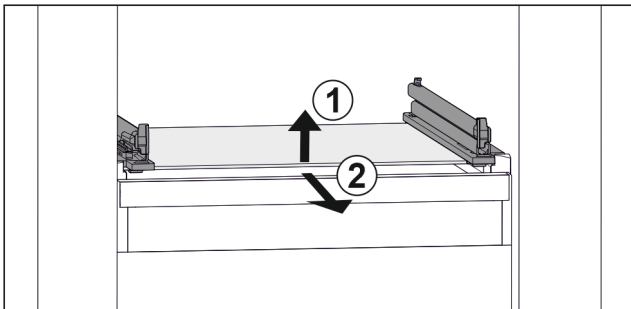

Fig. 109 Example illustration of glass shelf
- ▶ Lift glass shelf at the front. Fig. 109 (1)
- ▶ Remove glass shelf to the front. Fig. 109 (2)